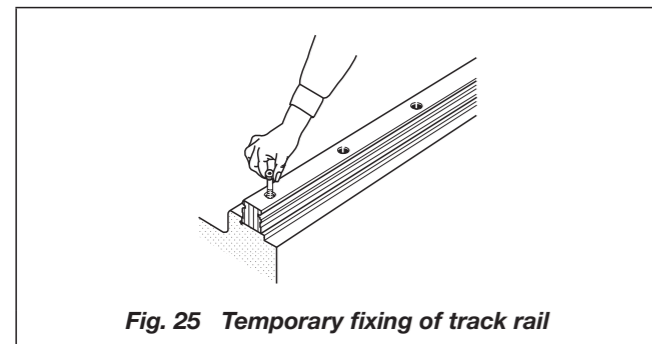

Fig. 25 Temporary fixing of track rail
②Temporary fixing of Linear Way I and II track rails
- Correctly fit the reference mounting surfaces of Linear Way I and II track rails onto the mating reference mounting surfaces of the bed, and temporarily fix the track rails with mounting bolts. (See Fig. 25.)